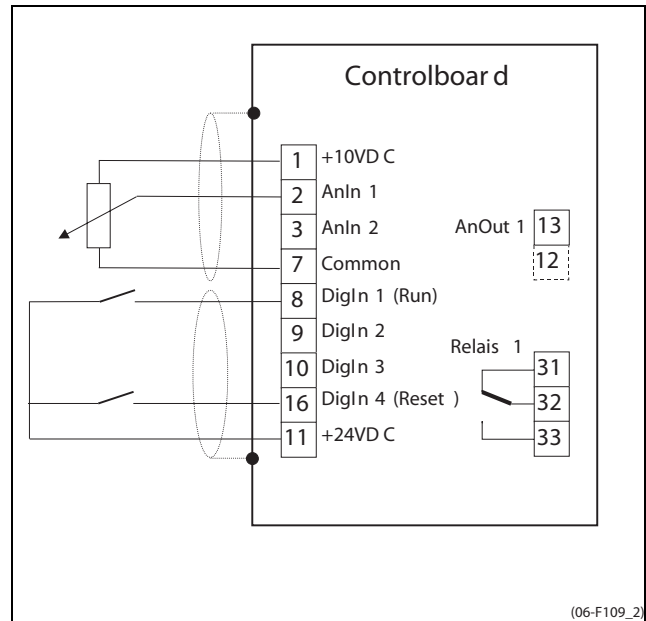

Fig. 2 Minimum control wiring.
- To run the motor, there must be a reference value and a start command present. See also Fig. 2.
Fig. 2 shows the minimum control wiring needed to get started. The input AnIn1 is used with a 2 k $\Omega$  potentiometer. A Run command can be given on inputs (DigIn1) to start the inverter. The potentiometer will work as a Frequency Reference (default).